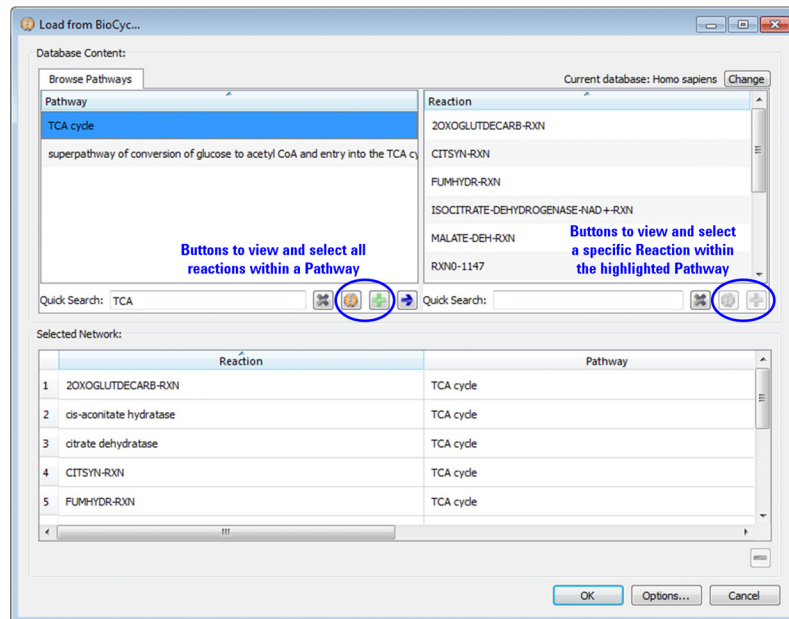

Figure 66 Load from BioCyc dialog box
- a Type **TCA** in **Quick Search** to reduce the number of pathways listed in the **Browse Pathways** section of the *Database Content* in the **Load from BioCyc** dialog box (Figure 66).